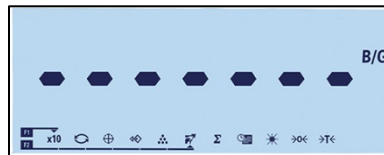

Figure 2-22: Display Indicating Weight Value Collection in Progress
1. Put the animal/s on the platform, then press the “animal weighing” function key . While the terminal collects weight values, “-----” is displayed (Figure 2-22). The process takes 2 to 3 seconds. In order to achieve better precision, the first 14 weight values are discarded, and the next 56 values collected for use in the calculation.